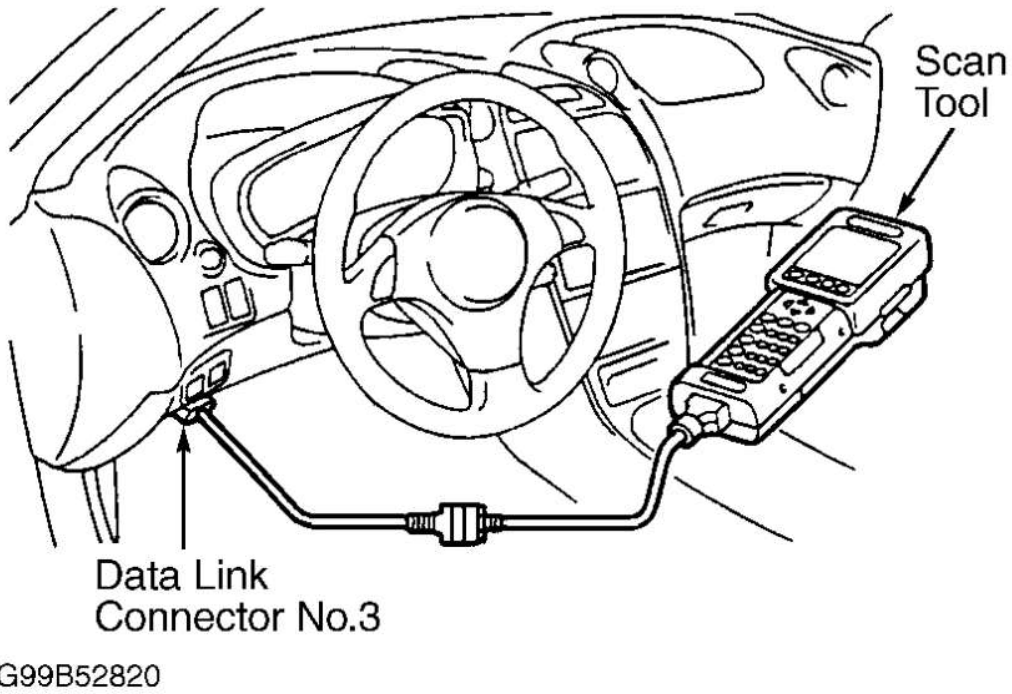

Fig. 4: Locating Data Link Connector No. 3 (Celica)
1. Connect hand-held tester to data link connector No. 3 at driver's side of instrument panel. See **Fig. 4 -Fig. 10** . Turn ignition on. DO NOT start engine.